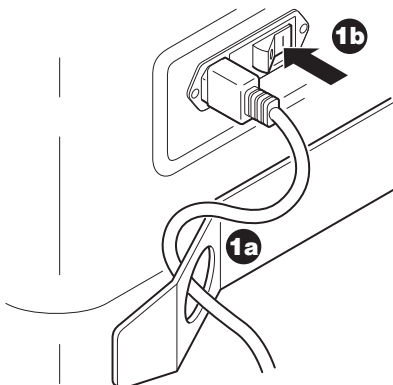

Figure 11 Power Cord Strain Relief
- a. Connect the rover to facility electrical power using the power cord. Insert the plug of the power cord through the strain relief hole before connecting the cord to the rover (Figure 11).